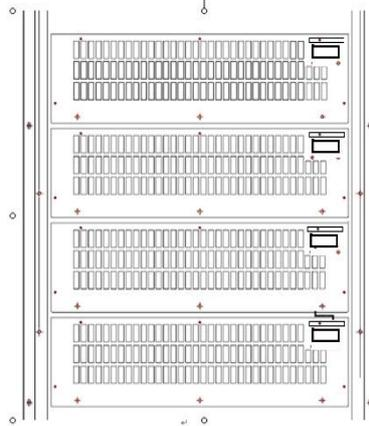

Figure 2.16 Connecting Diagram of Battery Pack
- 3) Cut off the connecting line of battery pack (as shown in Figure 2.16).